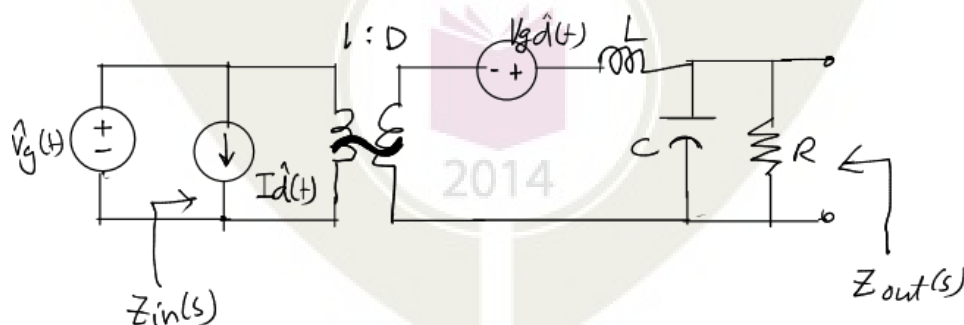

Figure 2.
- 15 (a) Figure 2 shows the small-signal model of a buck converter. Evaluate the output-to-control transfer function,  $G_{vd}(s) = \frac{\hat{v}(s)}{\hat{d}(s)}$  from this equivalent circuit, by applying circuit manipulation techniques. Express the transfer functions in the standard form, where the quality factor  $Q$ , resonant frequency  $\omega_0$ , dc gain  $G_0$  etc., are visible. (9)